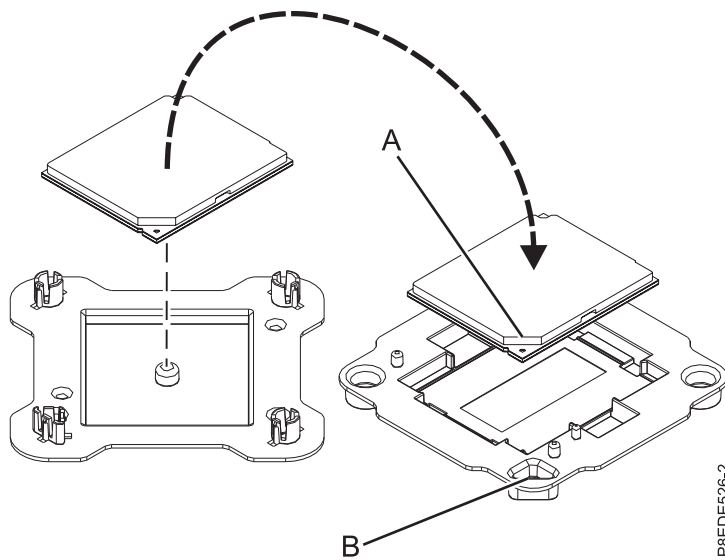

Figure 98. Placing the system processor module into the packaging
10. Lightly grip the system processor module that you replaced by the edges and lift it off of the packaging cover. Align the beveled corner of the module **(A)** to the corner of the packaging with triangle **(B)** and place it in the packaging, as shown in Figure 98 on page 95. Close the packaging